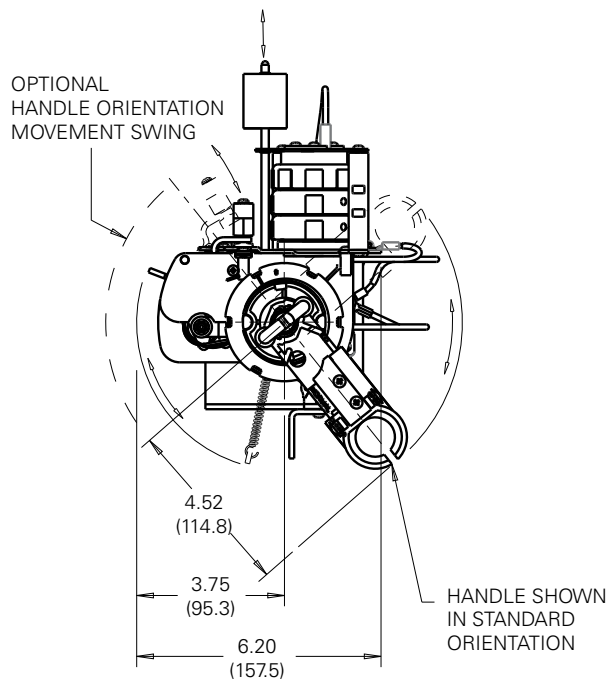

Figure 2. Open/Closed handle positions (Standard positions shown).
The MagneX Interrupter is a primary loadbreak interrupting device, which is handle operated only. Handle operation must be performed with an operating tool, such as a hotstick, hookstick or disconnect stick. When the handle is down against its physical stop, the contacts are “closed” (standard position). Rotating the handle upward (counter clockwise) causes the spring loaded contacts to “open.” Moving the handle downward against its physical stop returns the device to the “closed” position. (Refer to Figure 2).
In the “closed” position, this device will operate automatically due to an overcurrent condition or rise in oil temperature. In this case, the circuit will be “open,” with the handle pointed downward in the “closed” (standard position). To reset, the handle must be rotated upward (counter clockwise) to the “open” position and then back down (clockwise) against its physical stop to the “closed” position. (Refer to Figure 2).
- External handle clear of obstruction. Clearances also required for handle movement swing. (Refer to Figure 2).